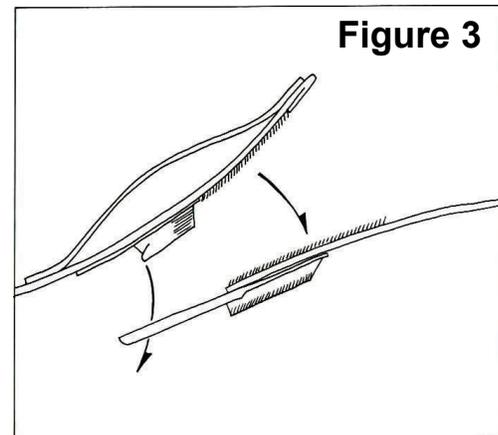

Figure 3
3. Before adjusting the belt, observe the small tab on the male buckle. This tab should be inserted into the female side as shown before attaching the Velcro. **(Figure 3)**